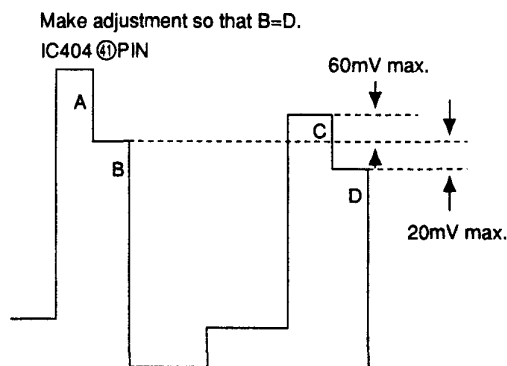

Fig. 5-28
- 2) Connect the probe of an oscilloscope to IC404 ⑩ PIN or TP401.
- 4) Adjust **R-Y LEVEL PAL** so that the peaks of waveforms will be flush with each other as shown on the right. (Fig.5-28)